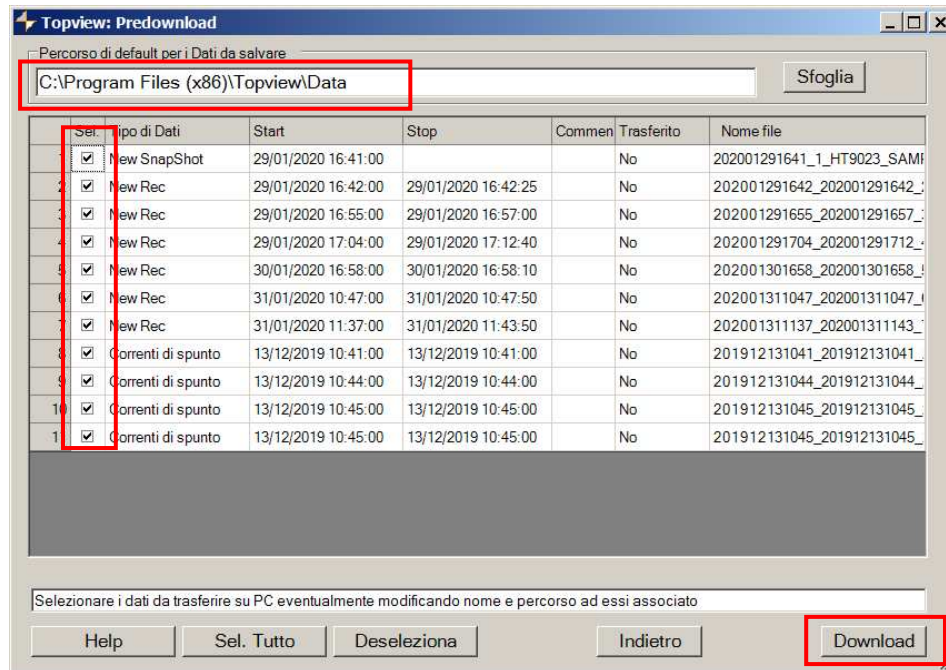

Fig. 17: Selection data for download
7. Click on the "**Next**" button to open the download window (see Fig. 17). Check the measurements you want to download, choose the path where you want to save them and click on the "**Download**" button to start the transfer